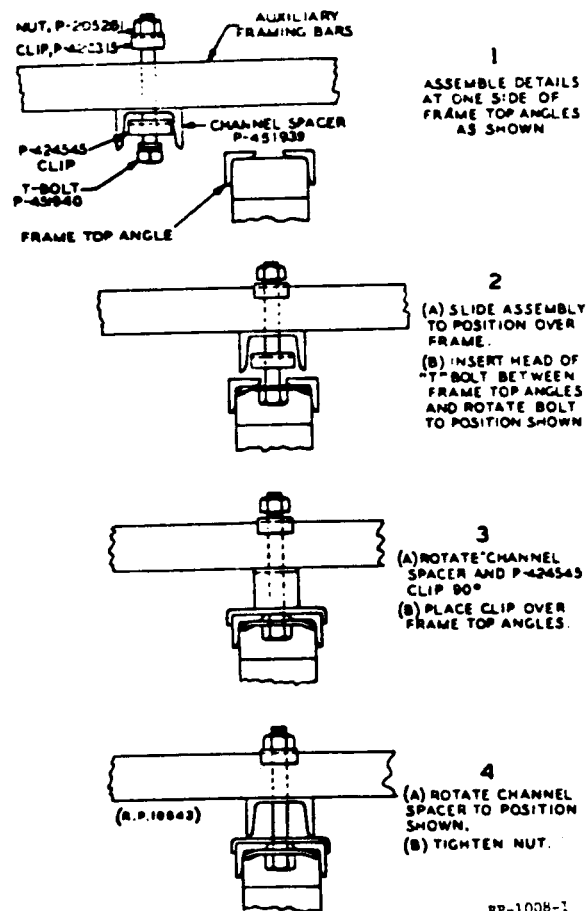
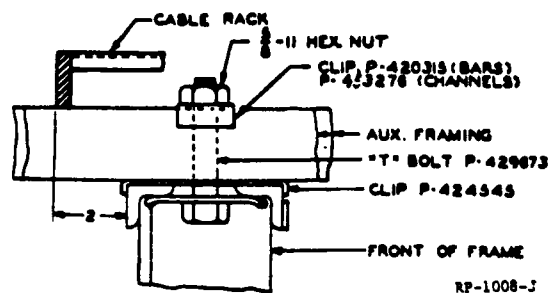
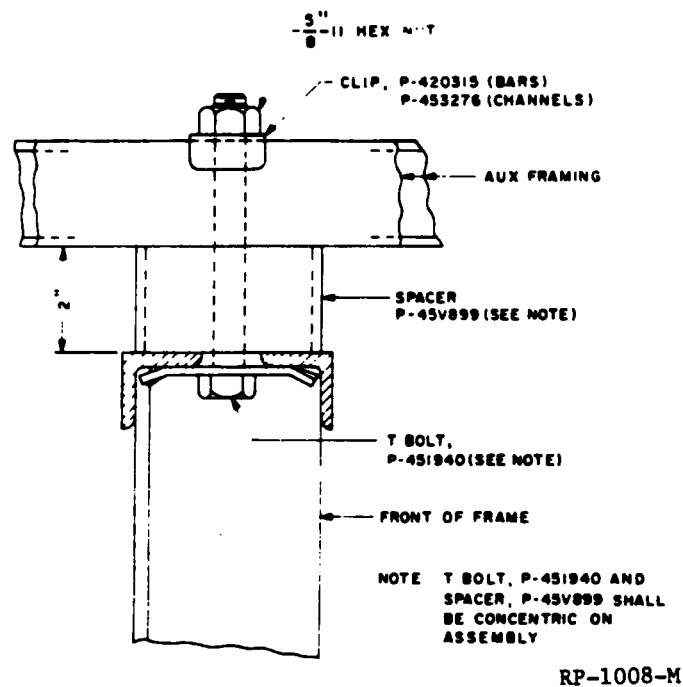

FIG. 5B METHOD OF ASSEMBLING ANGLE BAY FASTENING DETAILS WHERE AN OBSTRUCTION PREVENTS INSERTION OF "T" BOLTS BETWEEN BAY TOP ANGLES FROM BELOW (PAR. 2.42)
FIG. 12C AUXILIARY FRAMING ATTACHED DIRECTLY TO TOP ANGLES OF BULB ANGLE-TYPE FRAMES (PARS. 2.21, 2.61) (BSP 800-614-155, Fig. 12C)
FIG. 12G AUXILIARY FRAMING ATTACHED TO TOP ANGLES OF BULB ANGLE-TYPE FRAMES
| <ul style="list-style-type: none">1. GENERAL1.1 Scope1.11 This section covers requirements and information for fastening the tops of bulb angle-type frames to auxiliary framing as well as for isolated frames or frames extending more than 2'-6" beyond auxiliary framing.2. FASTENING FRAMES TO AUXILIARY FRAMING2.1 Obstructions2.11 Where an obstruction exists at the top of a frame and it prevents the frame from being fastened to the auxiliary framing, it should be treated in accordance with Paragraph 3.2.12 When a T-bolt is less than 1-3/4" from a frame junction plate and insertion is not possible from below, it will be necessary to insert and fasten frames to auxiliary framing with T-bolts before frame junction plate is installed.2.13 Figure 5B shows how the fastening details can be assembled when an obstruction at the top of the frame prevents insertion of the T-bolts between the frame top angles from below. | <ul style="list-style-type: none">2.2 At 11'-6" Level2.21 In toll, toll terminal, toll repeater, carrier, large step-by-step PBX's offices where frames are installed in regular rows and are of uniform height, the auxiliary framing should be at the 11'-8" level. The bulb angle-type frames should be fastened to the auxiliary framing with T-bolts and clips as shown in Figure 12C.2.22 Where the auxiliary framing bars fall directly over one T-bolt used to fasten the frame junction plate, the frame fastening T-bolt can be used in place of the shorter bolt and the bars secured to this bolt the same as at other locations.2.3 At 11'-7-1/2" or 11'-9-1/2" Level2.31 Where additional crossbar frames are being installed in offices where the auxiliary framing was installed at 11'-7-1/2" or 11'-9-1/2" above the floor, the added frames should be supported in a manner similar to that used for the existing frames except that, where the added frames are grouped together and in a separate building bay from the original equipment, separate auxiliary framing at the normal crossbar level should be used, braced as required without regard to the bracing in the original installation. |
2.61 This paragraph is rated A&M Only. Where a few bulb angle frames are installed in a step-by-step, local manual or toll manual offices with 11'-6" auxiliary framing, the auxiliary framing should be fastened directly to the top angles, as shown in Figure 12C to maintain a uniform level of auxiliary framing throughout the office. Where the number and location of the bulb angle-type frames is such that a 2" clearance can conveniently be obtained, as in the case of a group of automatic ticketing frames in a step-by-step office, the fastening shown in Figure 12G should be used.
(BSP 800-614-155, Fig. 12G)